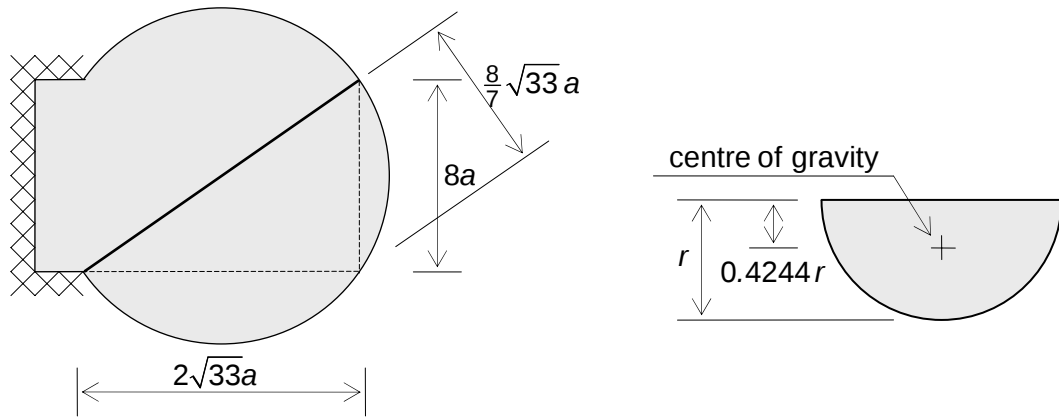

Figure 5. Yield line pattern of problem 2b
- b Consider the yield line pattern of Figure 5. Determine an upper bound for q expressed in m_p and a (1.5 point).